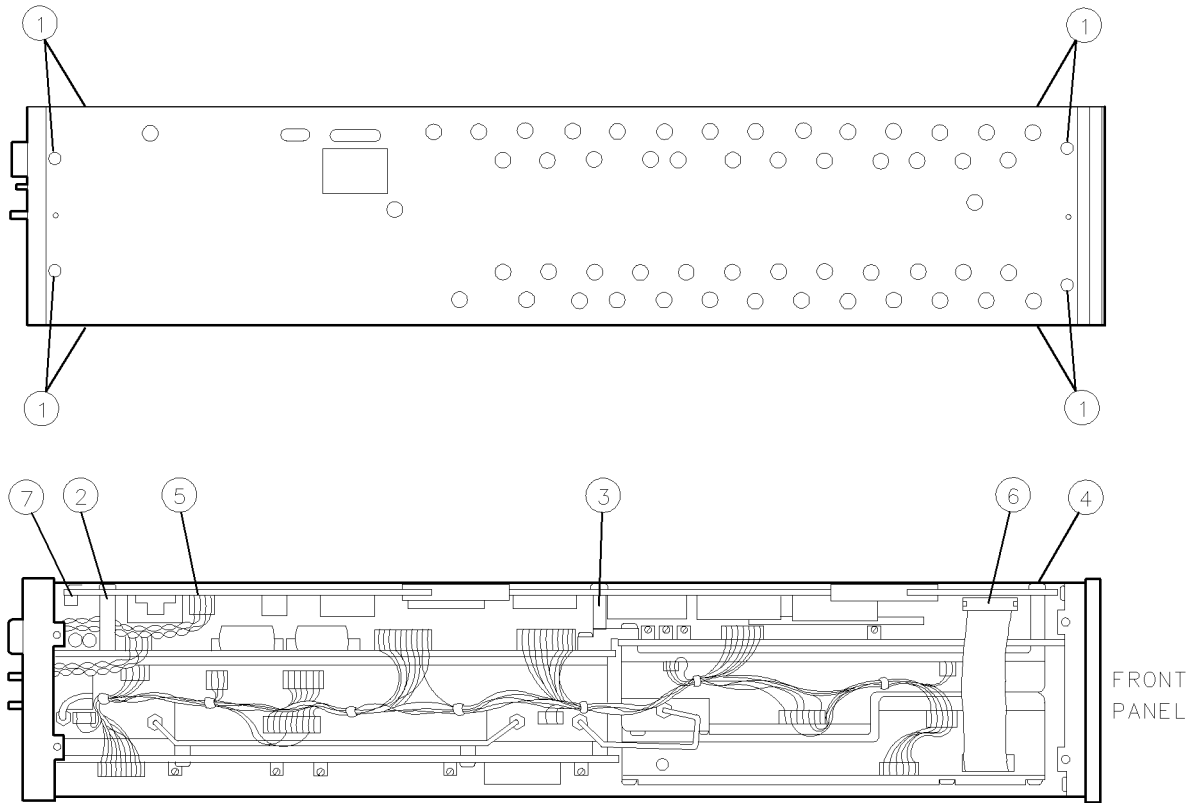

Figure 9-1. A1A1 Host/Processor Removal/Replacement
1. Remove the module’s cover by removing the eight screws ① (four on top, two on each side) illustrated in Figure 9-1.
2. Remove three screws ②, ③, and ④ and their spacers from the A1A1 host/processor.
3. Disconnect wire W11 from the A1A1 host/processor’s connector ⑤.
4. Carefully work the controller assembly out of its two motherboard connectors. When it is just out of the connectors, but still within the frame, disconnect W14 ⑥.
5. Carefully move the controller assembly away from the frame, taking care not to damage the W20 HP-MSIB flex-print cable ⑦. Disconnect the flex-print cable and put the assembly on a nonconductive, static-protected surface.
1. Remove the module’s cover by removing eight screws ① (four on top, two on each side) illustrated in Figure 9-1.
2. Remove one screw ③ with a star washer, and remove the flat washer and green spacer from the center top of the A1A2 1/4 MB RAM/ROM.